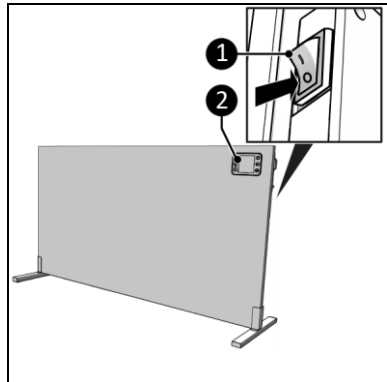

Figure 17
1. Set the main switch to the ON position on the device (figure 17, pos. 1).
2. The display (figure 17, pos. 2) will show OFF.
- the control panel (Figure 17, pos. 2) or;
5. The display (Figure 17, pos. 2) will show the ambient temperature.